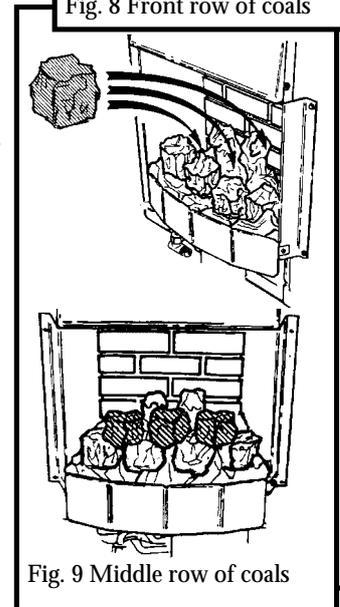

Fig. 9 Middle row of coals
4.2 Place the three remaining medium size coals behind and approximately midway between each of the coals in the front row (See figure 9).